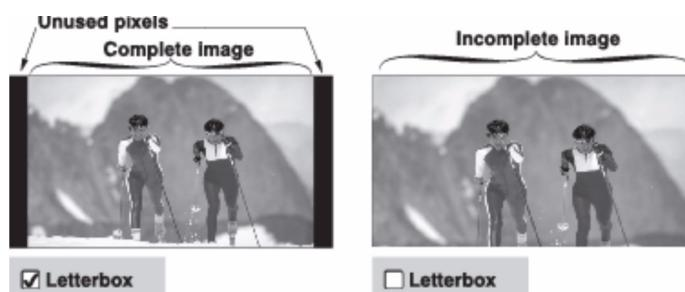

FIGURE 2-15 LETTERBOX
- **Letterbox:** Letterboxing ensures all image data is displayed and its aspect ratio is maintained. Use letterbox for virtually all normal operation. It ensures all incoming data is displayed within the defined presentation area and nothing will be discarded (**Figure 2-15**). If desired, any “black bars” (unused pixels) could then be cropped using the cropping control. Although disabling the letterbox control also fills the defined presentation area, any extra data beyond this area—whether top-and-bottom or left-and-right—will be discarded. **NOTE:** Check **Letterbox** for all cinema presentations.